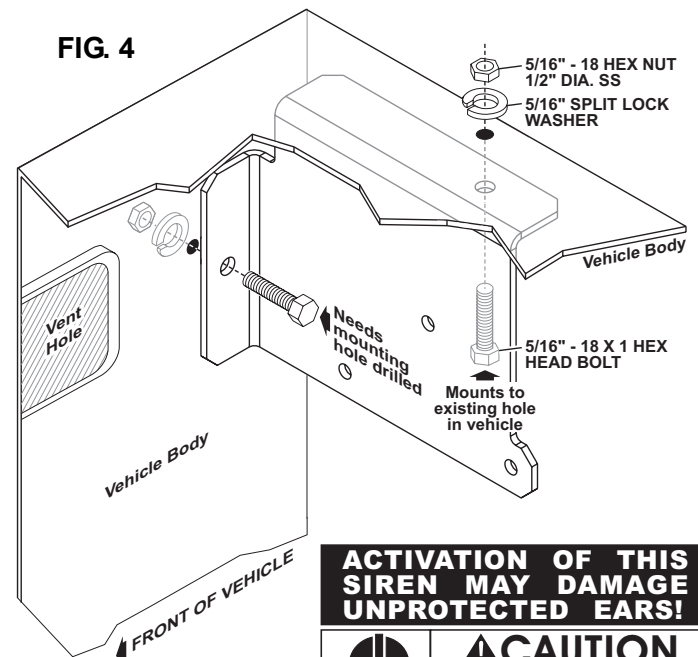

FIG. 4
3. The upper mounting bolt will use an existing hole in the vehicle, while the side mounting bolt will require a 3/8” mounting hole to be drilled. Secure the bracket using the upper mounting hole and the hardware provided as shown in Fig. 4.